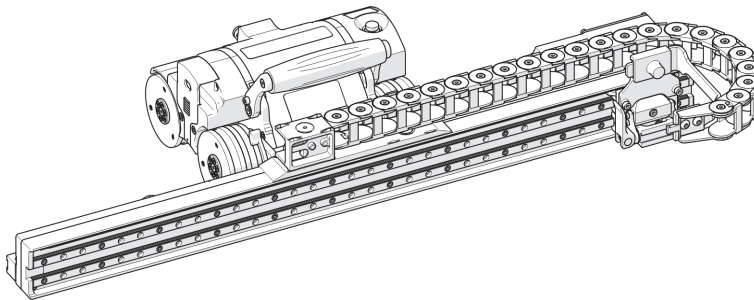

Figure 2-26 Properly mounted raster arm
2. Tighten the two black wing knobs to secure the raster arm (see Figure 2-26 on page 66).